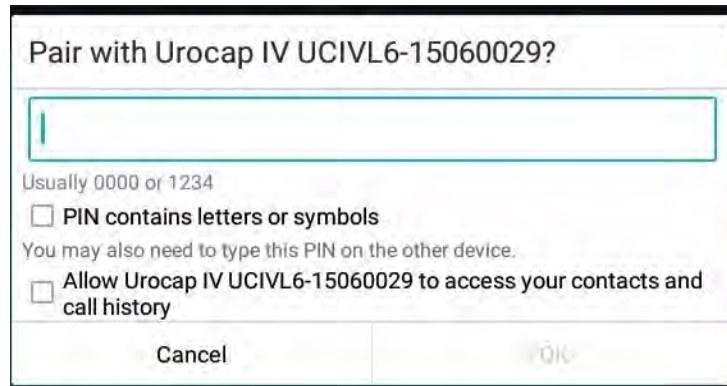

Figure 15 – Bluetooth Pairing Window
- During the connection of the Urocap™ IV Light device, the Bluetooth pairing request pop-up window may appear. It is important to wait for the window to automatically close (it usually occurs within 10 seconds; he timing depends on the tablet’s operating system) before continuing. Refer to Figure 15 – Bluetooth Pairing Window.